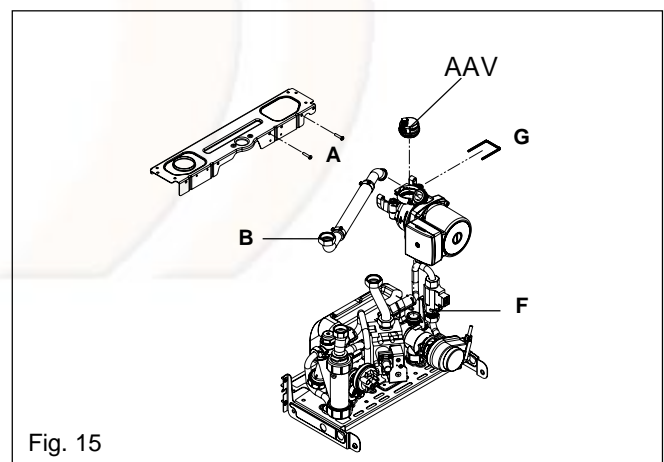

Fig. 15
### 6.5 PUMP ASSEMBLY fig. 15
- Refer to fig. 15 and remove items A & B
### 6.6 AUTOMATIC AIR RELEASE VALVE fig. 15 (AAV)